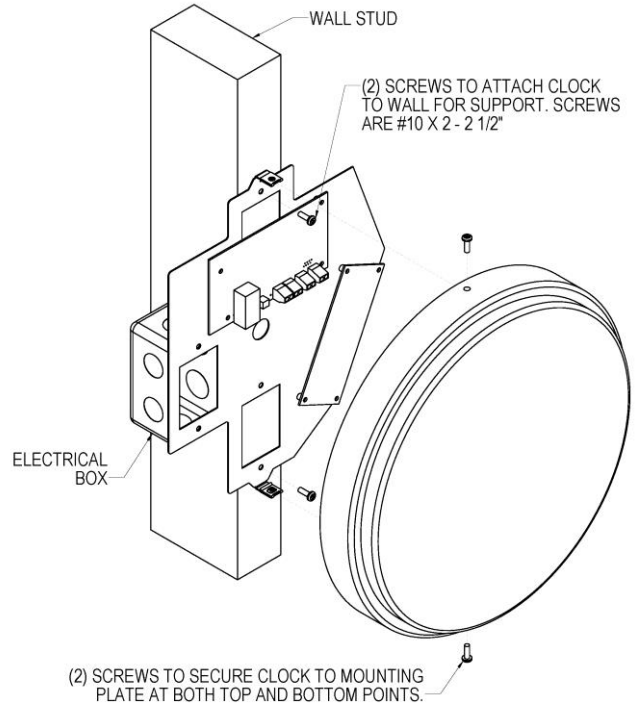

Figure 1. Clock Mount
- (A) Attach the supplied mounting bracket to a wall or a standard single-gang electrical box using appropriate hardware such as #8 pan head screws (not supplied). Mount in same orientation as shown. (Figure 1)
- (E) Place the enclosure of the clock on the outside of the upper and lower posts on the mounting bracket. Insert screws (supplied) to hold clock securely to bracket (Figures 1).